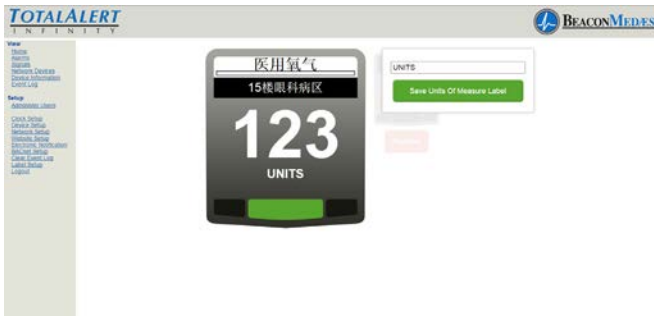

Figure 298
21. To setup units of measure (other than the defaults on the alarm) select UNITS tab on badge. Enter non-latin language characters for the Units of Measure of gas being monitored. (See Figure 298)